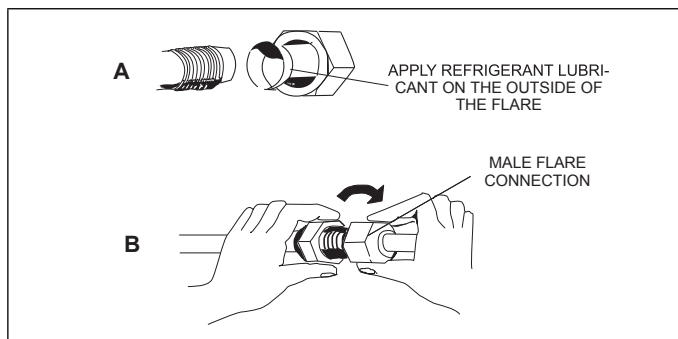

Figure 19. Making Connections (Male to Female Connection)
15. Align the threaded connections with the flared refrigerant lines. Tighten the flare nuts slightly at first to obtain a smooth match as illustrated in "Figure 19. Making Connections (Male to Female Connection)".